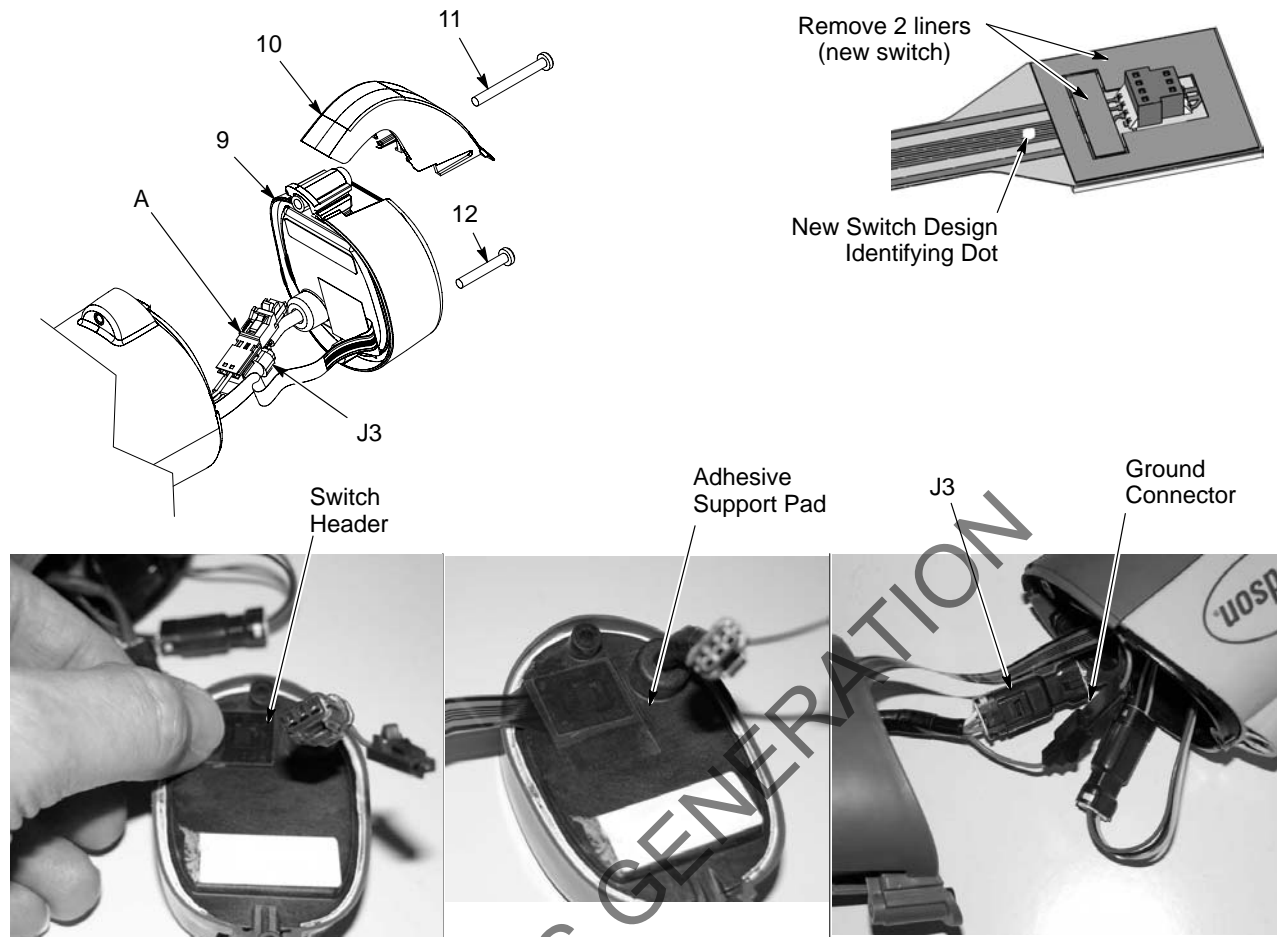

Figure 14 Display Module Replacement
17. See Figure 14. Install the display module as follows:
- g. Secure the module with the bottom (M3 x 20) screw (12).
- h. Slide the hook (10) onto the display module and secure it with the top (M3 x 30) screw (11).